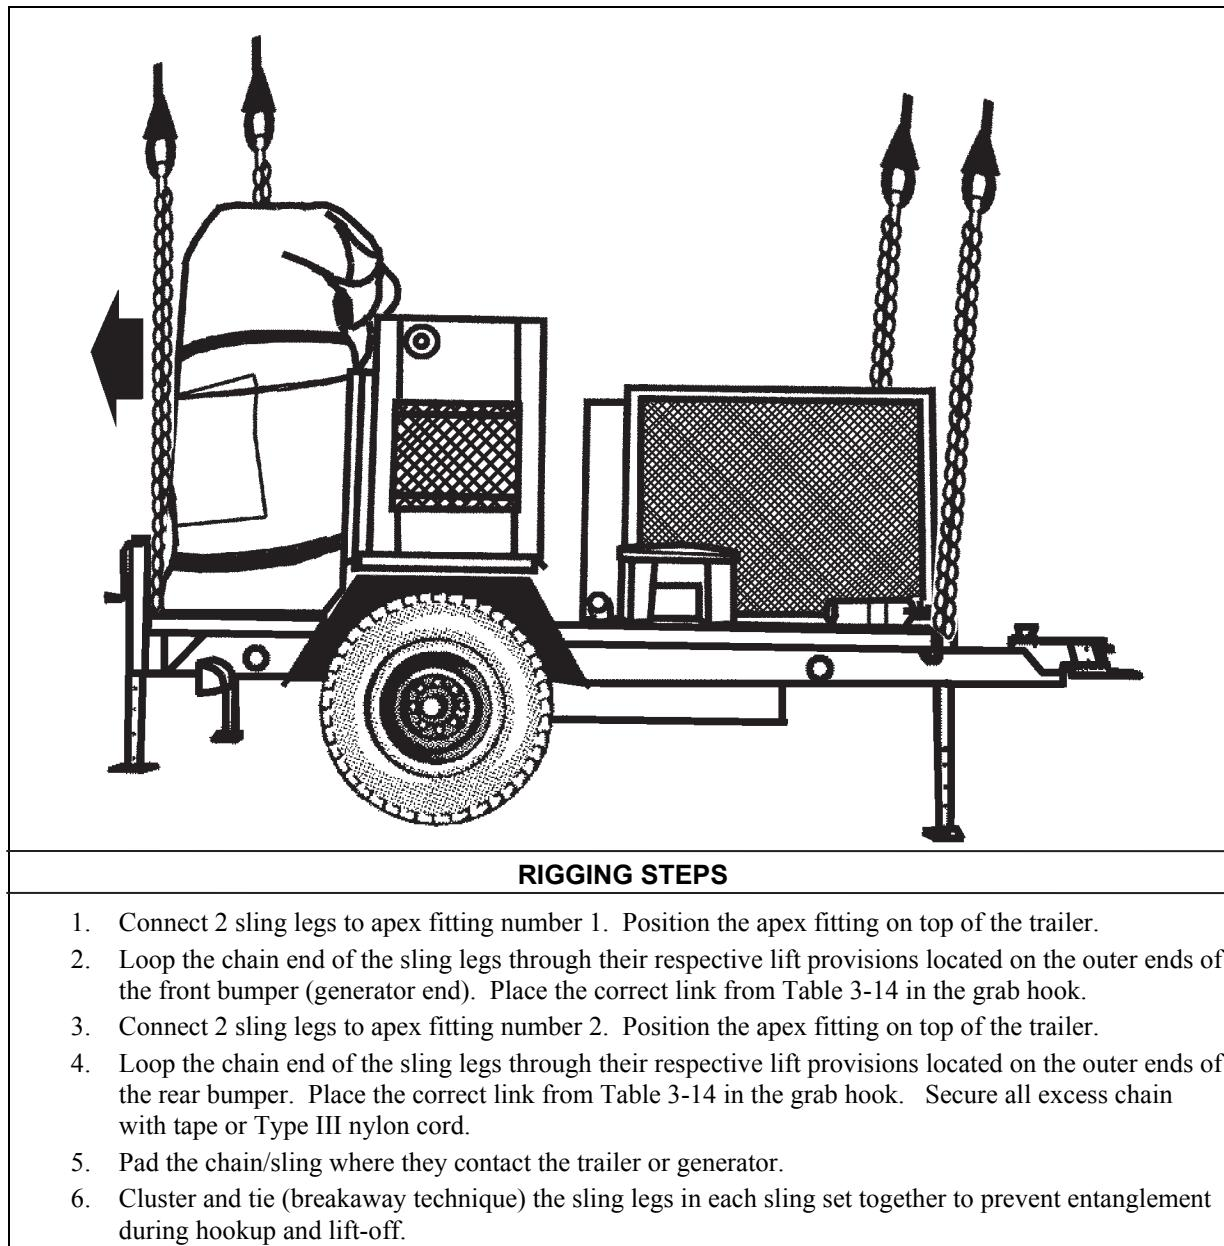

Figure 3-14. Deployable Print Production Center on COPS Trailer
- **Rigging.** Rig the load according to the steps in Figure 3-14.